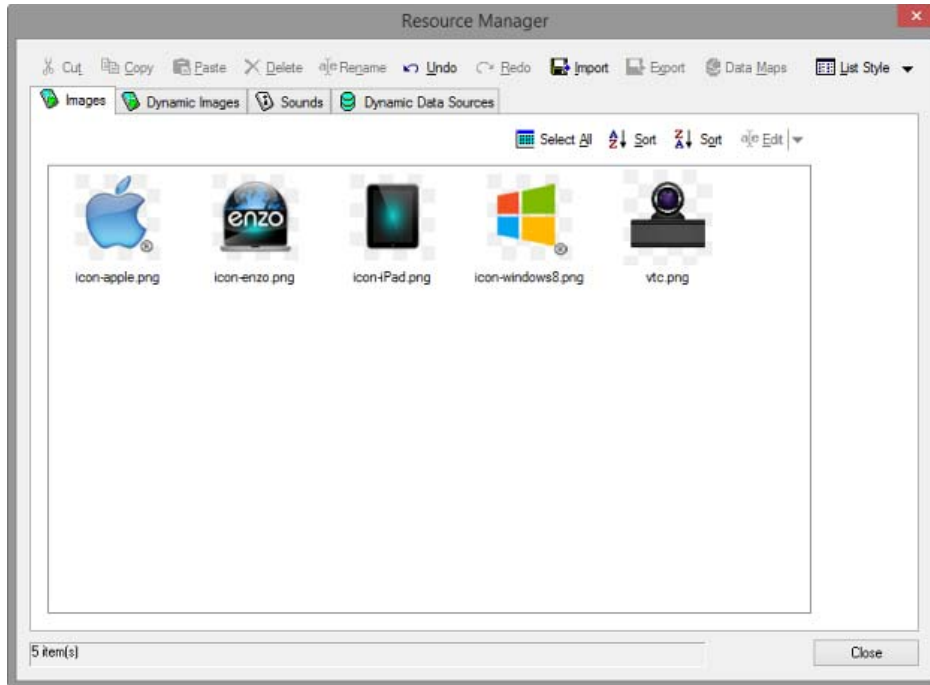

FIG. 224 Resource Manager Images tab - DragAndDropNoGroups Demo images imported
4. Click **OK** to import the selected files and return to the Resource Manager (FIG. 224):